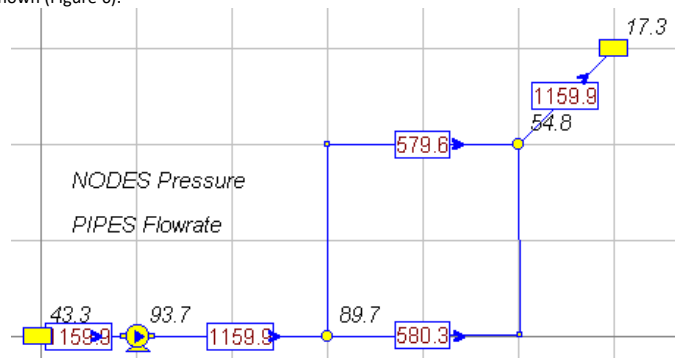

Figure 6 Case 3 - Added Pump
We want to add a 40 HP (useful horsepower) pump in the line leading from Reservoir A about 100 feet from the reservoir. To do this click on (LC) the pipe at the desired location and click on Insert icon (Pipe Information Window) and select Pump – Power. Select the pump and input 40 (HP) for the Power and 210 (ft.) for the elevation (Node Information Window). Now analyze the system and note the effect of this pump which provides around 136 feet of head and nearly doubles the flow. A printout showing flows and pressures is shown (Figure 6).